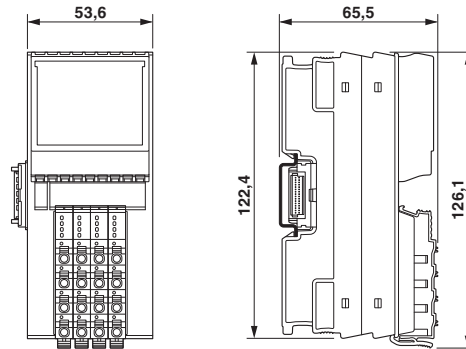

Figure 5-18 Nominal dimensions of the F housing for power measurement with one terminal field (type 1F-PM, AXL F PM EF 1F)
| 1F (PM) | Wide housing, 1 terminal field, power measurement | AXL F PM EF 1F | | Figure 5-18 on page 41 |